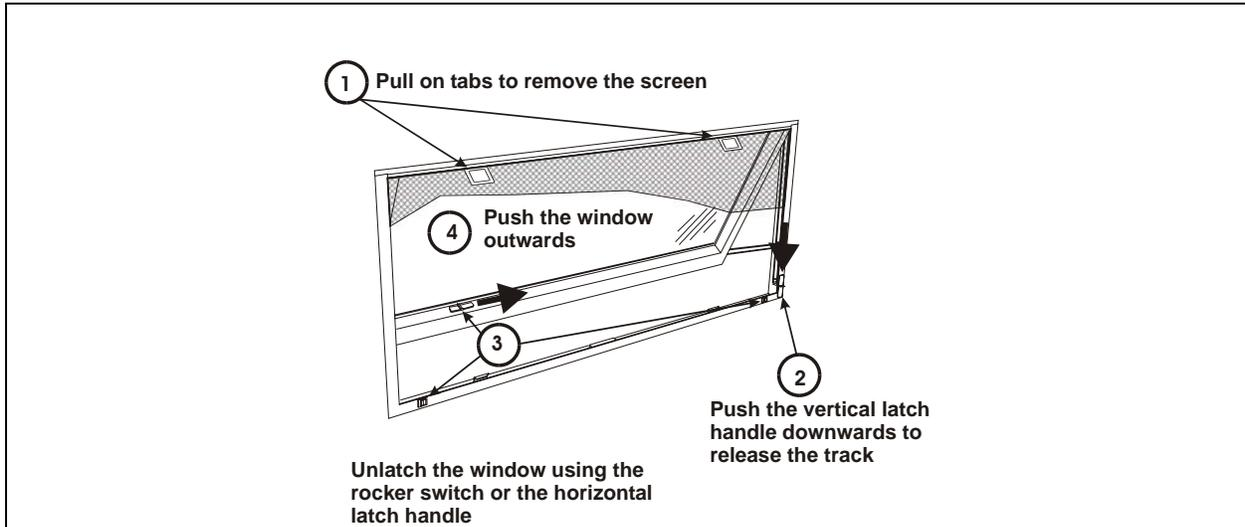

FIGURE 1
1. Remove the fly screen (step 1, figure 1).
2. Release the track using the vertical latch handle (step 2, figure 1).
3. Unlatch and open the window using the horizontal latch handle (step 3 & 4, figure 1).